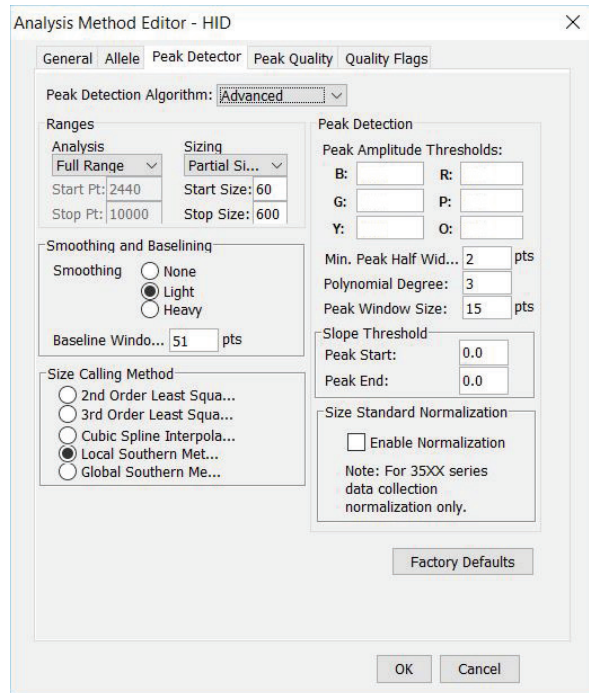

Figure 26. 'Peak Detector' tab settings.
- To verify or set the correct peak detection settings, choose the 'Peak Detector' tab. Enter the peak amplitude threshold values for your laboratory, and leave all other settings as shown in Figure 26.